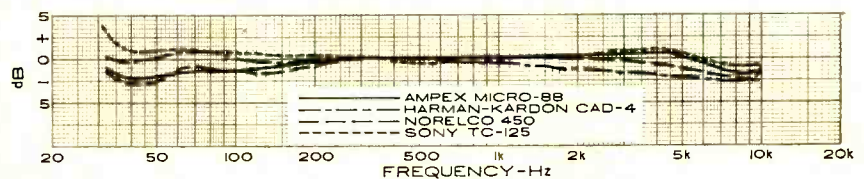
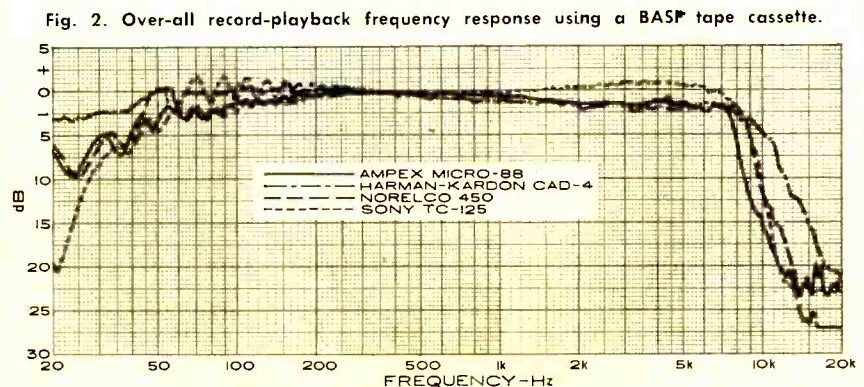

Fig. 1. Playback frequency response using Philips HU717/23 standard test cassette.
Fig. 2. Over-all record-playback frequency response using a BASF tape cassette.
There were some differences in the high-frequency response of the four machines. On playback, the Norelco 450 had a roll-off above 5000 Hz, but the others had relatively uniform response out to the 10,000-Hz limit of the test tape. Upon readjusting the head azimuth of the Norelco unit, the high-frequency performance improved, as shown in the curve (Fig. 1). In the record/playback response test (Fig. 2), the Harman-Kardon CAD-4 had quite uniform output to about 10,000 to 12,000 Hz, but the other three began to roll off between 8000 and 9000 Hz. These measurements were made with BASF tape, which in most cases had better high-frequency characteristics than others we tried. It seems probable that the operating conditions of the recorders were optimized for a tape such as the BASF.
Fig. 1 illustrates one of a family of electronic thrusters. The processes integral to the engine's function are: (1) generation of charged particles, (2) their acceleration, (3) deceleration, and (4) neutralization of the ion beam by electron addition; this latter process being required to restore the (positive) ions to electrical neutrality by replenishing them with lost electrons. Otherwise the electrons will collect on the vehicular system, building up a negative charge that will slow down the positively charged exhaust stream. A "hot" filament serves as an electron injector.